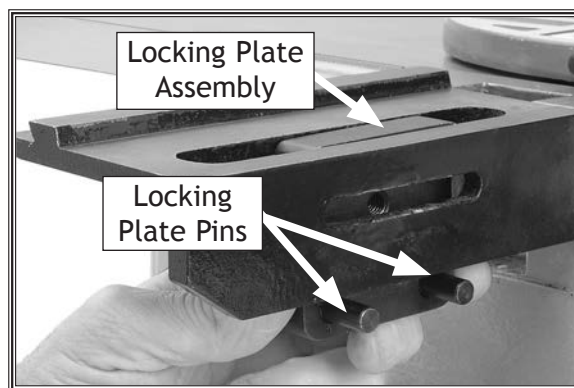

Figure 10. Inserting the locking plate.
3. Insert the locking plate assembly into the fence support, positioning it so the two pins are against the bottom edge of the fence support, as shown in **Figure 10**.